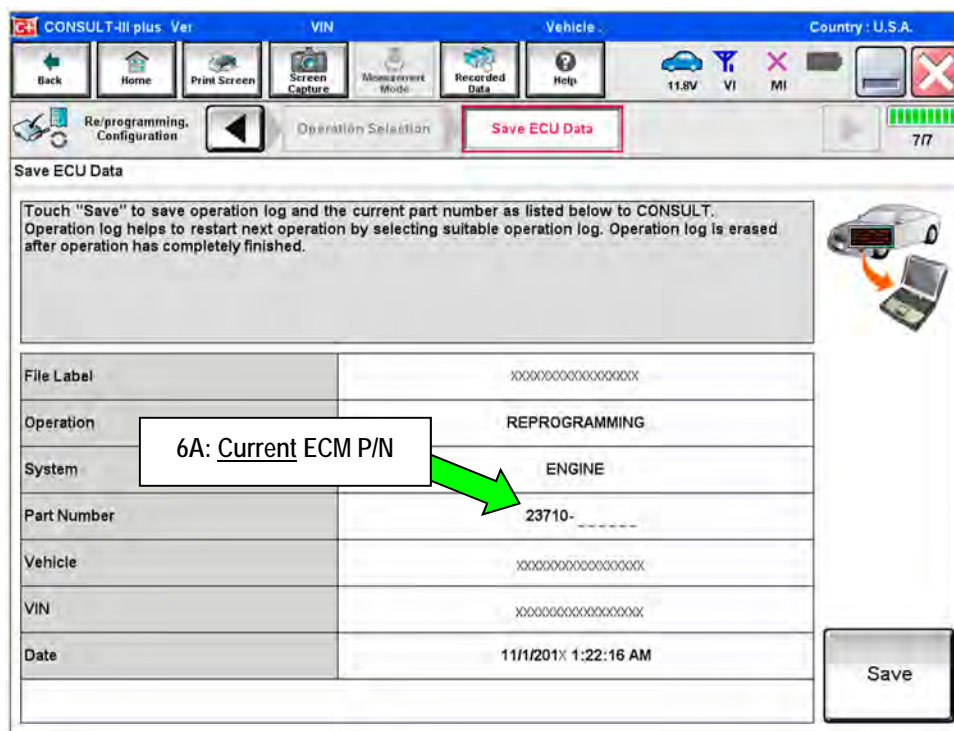

Figure 2
5. Follow the on-screen instructions and navigate the C-III plus to the screen shown in Figure 2 on the next page.
6. When you get to the screen shown in Figure 2, confirm this bulletin applies as follows.